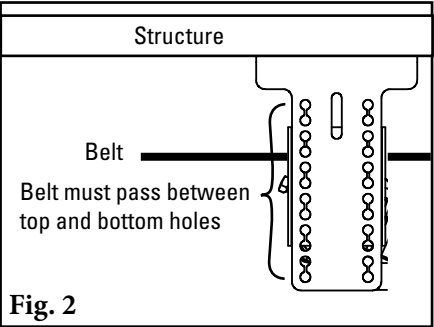

Fig. 2
2. **Position mounting brackets.** May be mounted to existing idler bracket mounts OR to outside of structure, if structure width is belt width +450mm (18") or less. Be sure belt passes between top and bottom mounting holes (Fig 2).